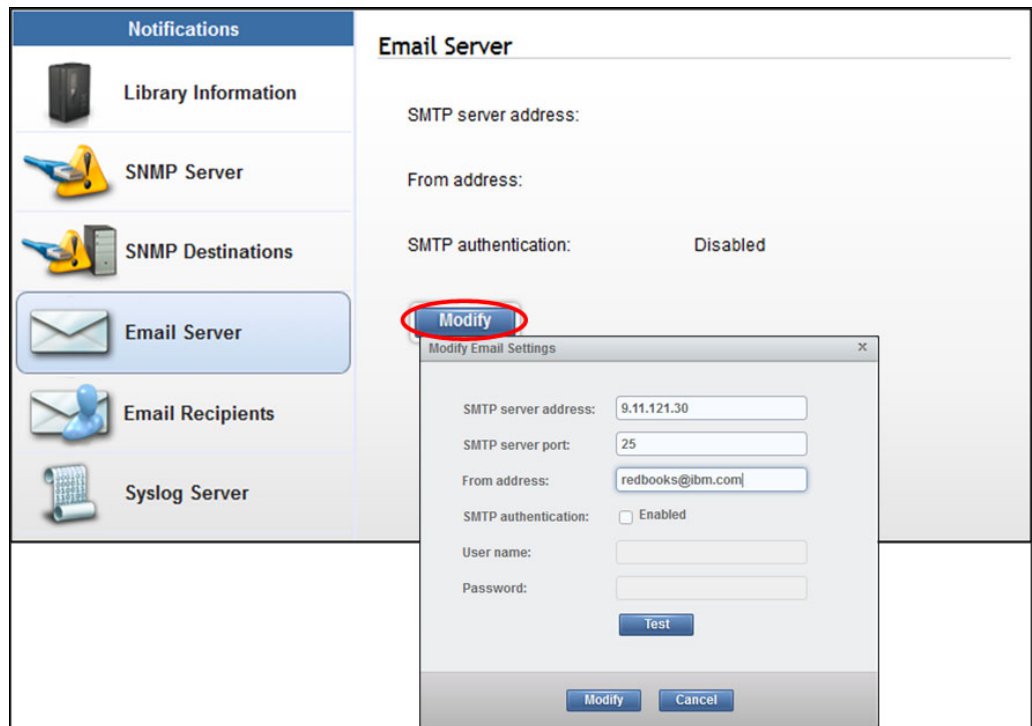

Figure 4-29 Email Server notifications page
2. Enable **SMTP authentication**, as shown in Figure 4-29.